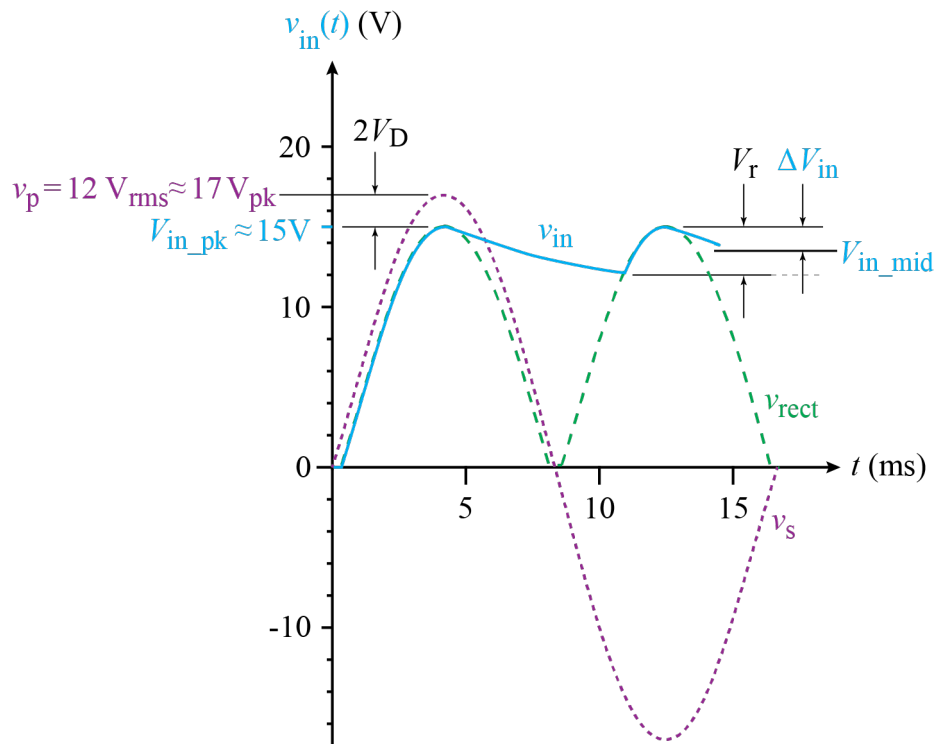

Fig. 8: Capacitor ripple voltage.
- 5) (10 pts) The last design step is to determine the size of capacitor needed. We will assume that R_L is present. Fig. 8 shows the ripple waveform. The capacitor charges up as the input voltage peaks, but it discharges as it provides the current for the voltage regulator.